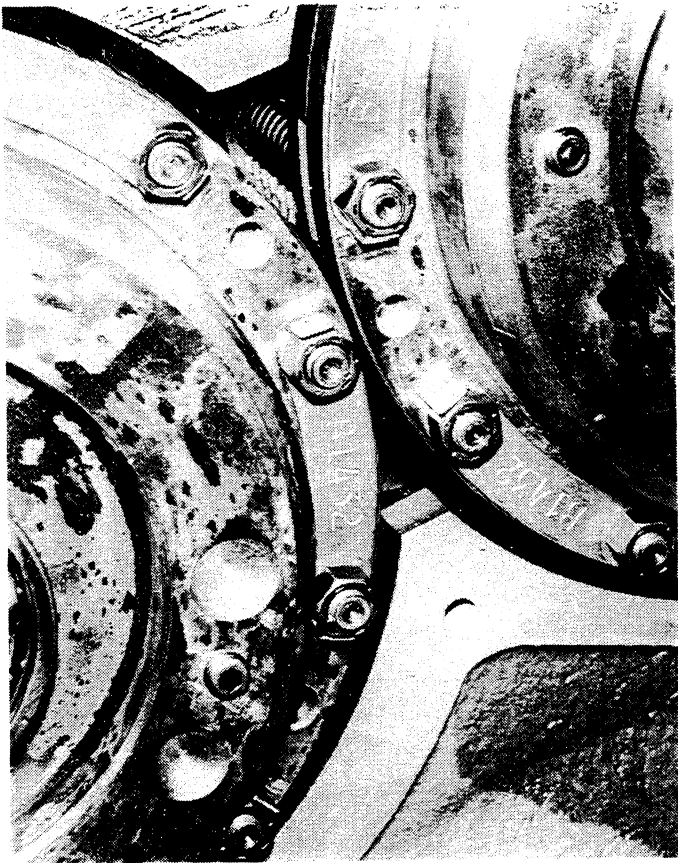
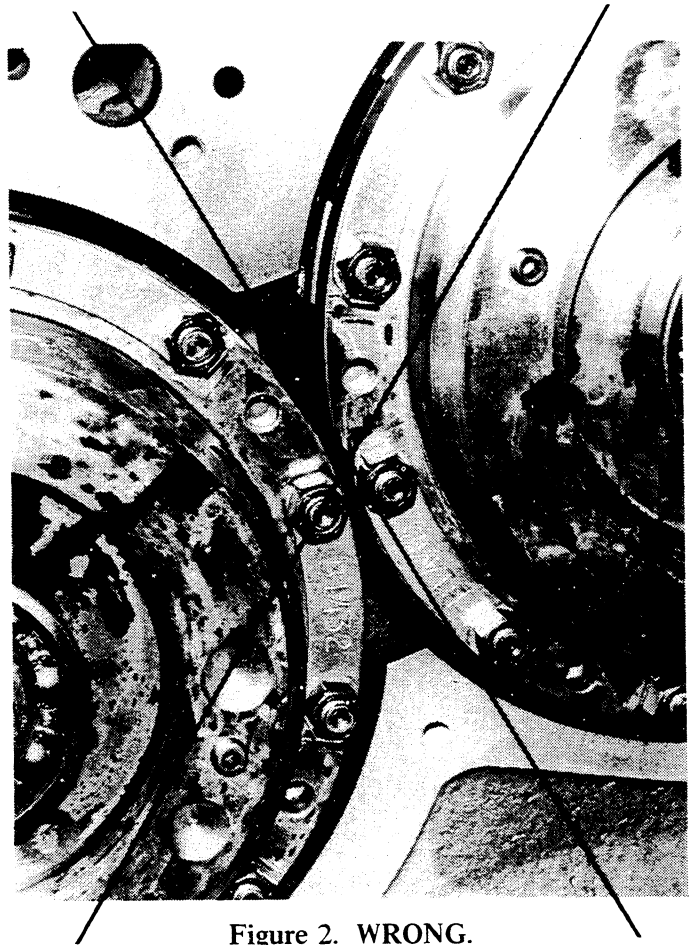

Figure 1. RIGHT.
Figure 2. WRONG.
Figure 1 shows this alternate method.
8. Remove the marine gear bottom cover assembly. Position two 3/4 inch flat steel bars on the hub of the output gear, between the gear and the main housing. This is to restrict the movement of the gear and prevent it from crushing the pinion bearing while pulling. (See Figure 1).
The forward and reverse clutches should be indexed to each other so that a release spring in one aligns with the space between springs in the other as the clutches are rotated. Figure 1 shows the clutches properly indexed. Figure 2 shows improper indexing.